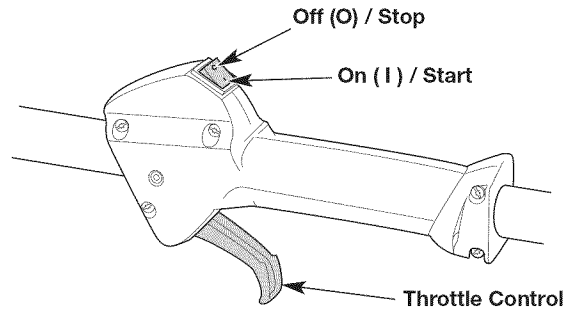
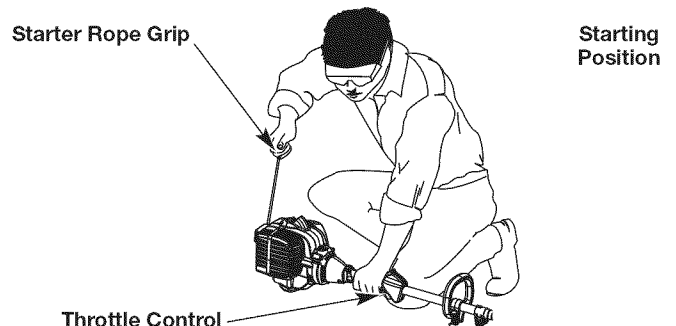

Fig. 9
Fig. 12
WARNING: Avoid accidentally starting the unit. To avoid serious injury, the operator and the unit must be in a stable position when pulling the starter rope (Fig. 12).
NOTE: There is no need to turn the unit on. The On/Off switch is in the ON (I) position at all times (Fig. 9).
5. Crouch in the starting position (Fig. 12).
6. Squeeze the throttle control (Fig. 9) and pull the starter rope with a controlled and steady motion **5 times** (Fig. 12).
2. Press and hold the On/Off switch in the OFF (O) position until the engine comes to a complete stop (Fig. 9).
7. Squeeze and hold the throttle control (Fig. 9). Run the Speed Start™ accessory for 2 seconds.